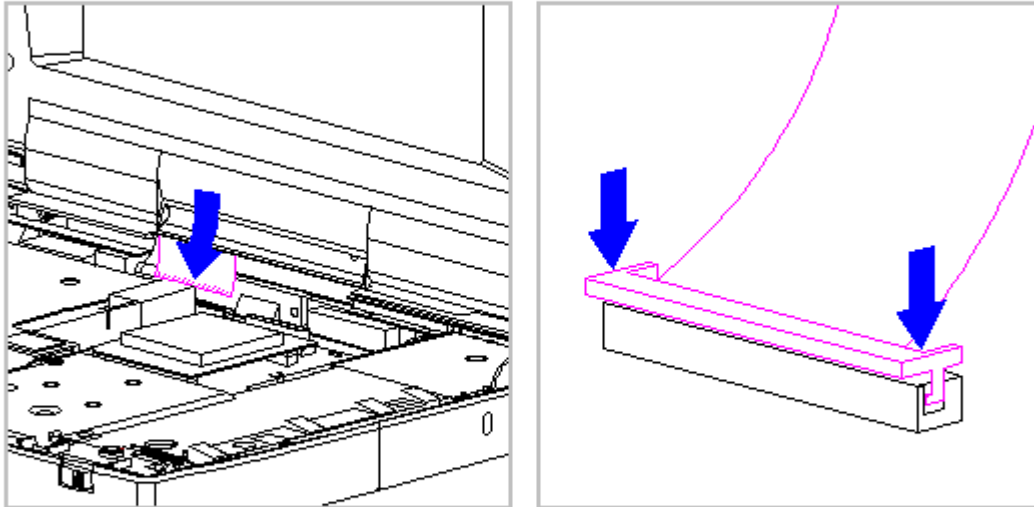

Figure 3-100. Connecting the Display Cable to the System Board (Models 400 and 410)
12. While holding the end of the display cable inside the ZIF connector slide, press down both ends of the slide simultaneously to secure the cable in the ZIF connector (Figure 3-100).